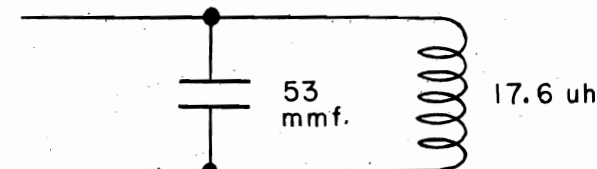

Fig. 1
6. Loop antenna must remain connected at all times or replaced by dummy antenna consisting of a coil with 17.6 uh inductance shunted with a 53 mmf. condenser. See Fig. 1.